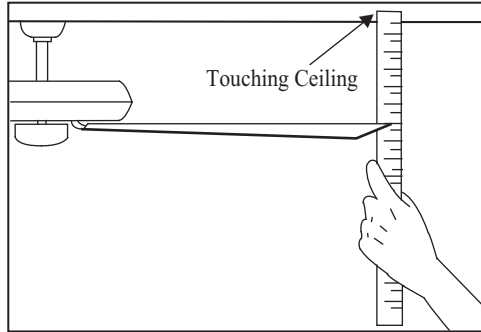

Figure 20
- Select a point on the ceiling above the tip of one of the blades, then select any fan blade and measure from the center of the selected blade to the point on the ceiling (as shown in Figure 20). Rotate the fan until the next blade is positioned and repeat the measurement using the same point from the ceiling for every blade. Measurement deviations should be within $1/8''$.